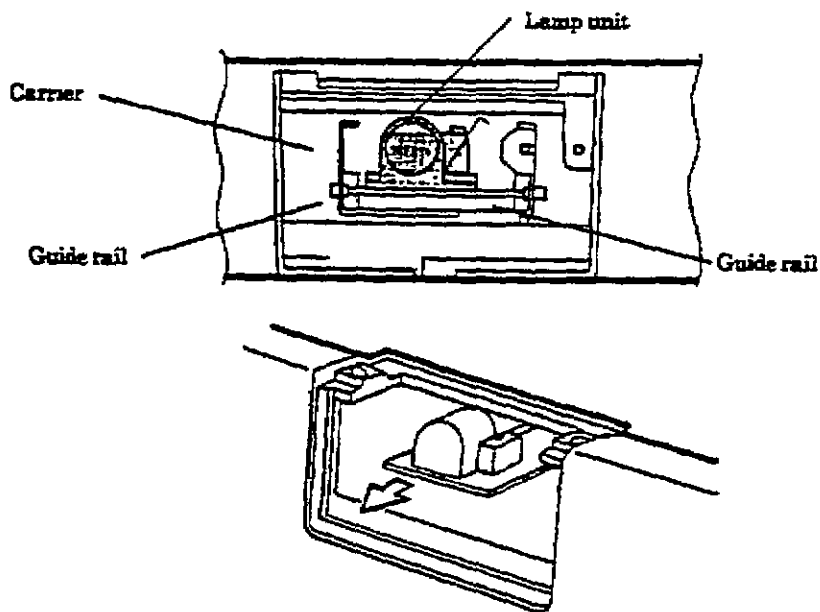

Figure 5.1 Lamp unit removal
- (1) Turn off the power.
- (2) Power on with pressing 'Mode' switch and 'Select' switch.
- (3) After the carrier moves to the center of Flat-bed, turn off the power. (LCD indicates 'Power-off!')
- (4) Remove the document cover and lamp cover.
- (5) Pull out the lamp unit. (Meshed parts in Figure 5.1)